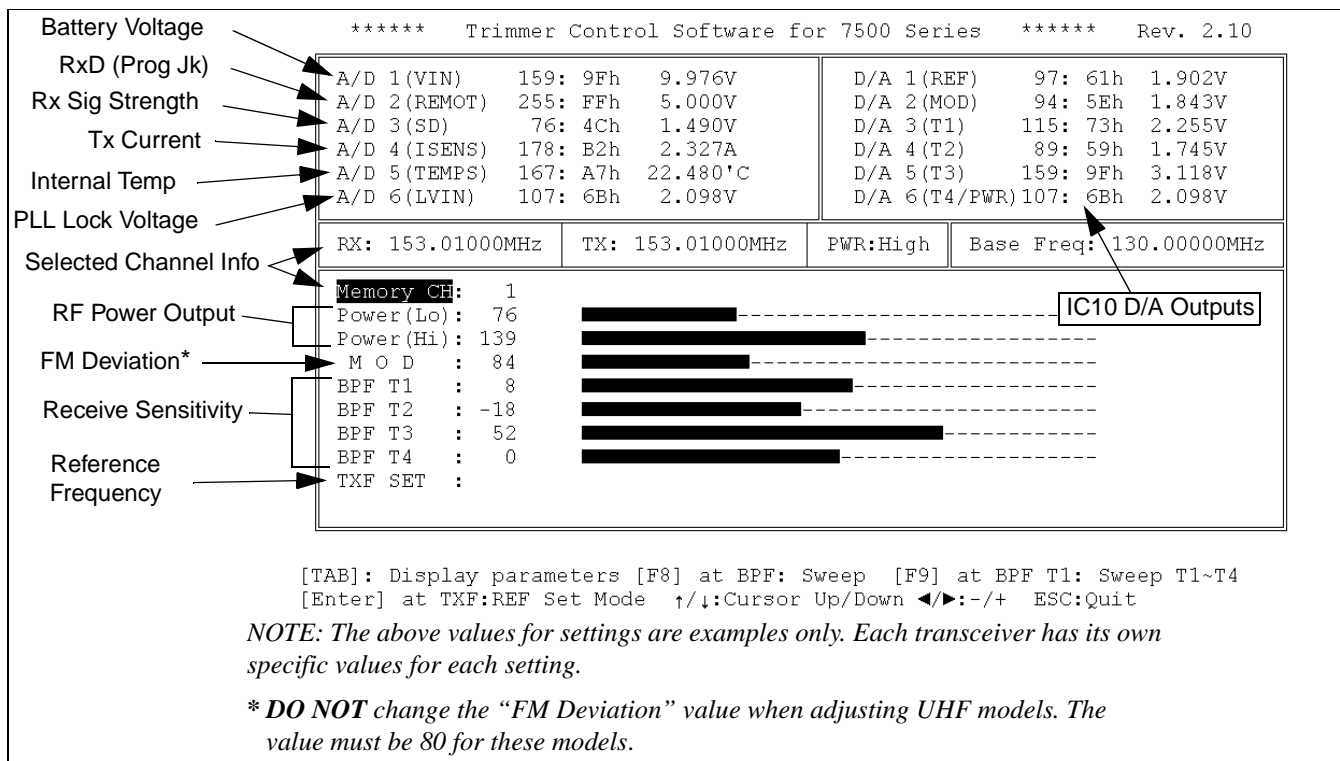

Figure 5-2 Screen Display Example
4. The adjustment screen shown in Figure 5-2 is then displayed. The information that is displayed is the adjustment data, frequency, power, and other data for the currently selected channel.